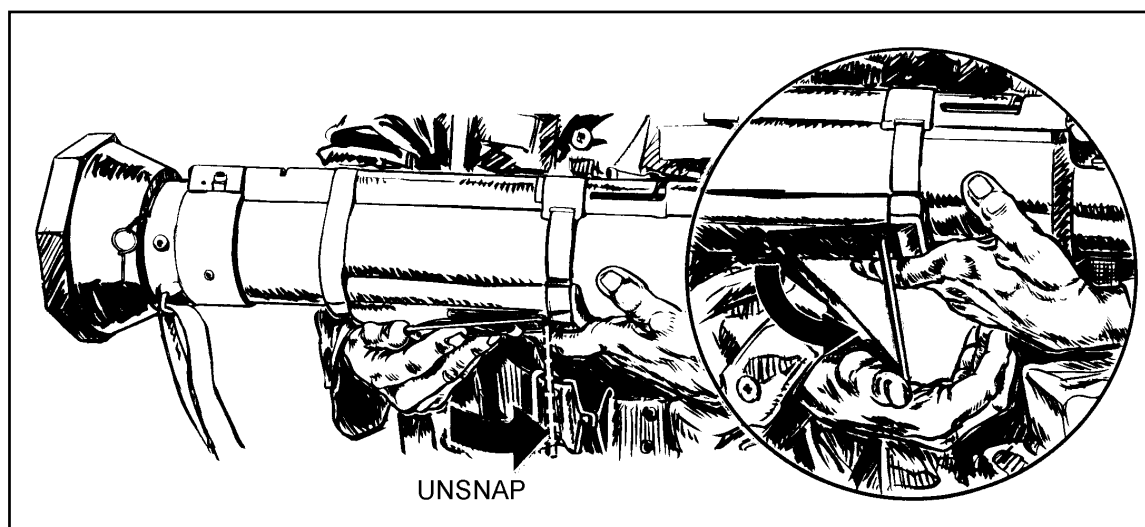

Figure 3-14. Unsnapping the shoulder stop.
- c. Unsnap, unfold, and hold the shoulder stop with your right hand (Figure 3-14).